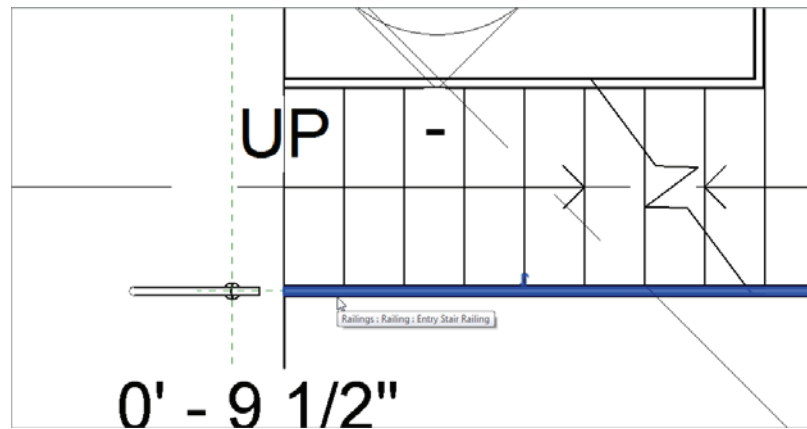

FIGURE 10.16 Selecting the railing, not the stairs
1. In the plan, select the bottom railing, as shown in Figure 10.16. Make sure you are not selecting the stairs.